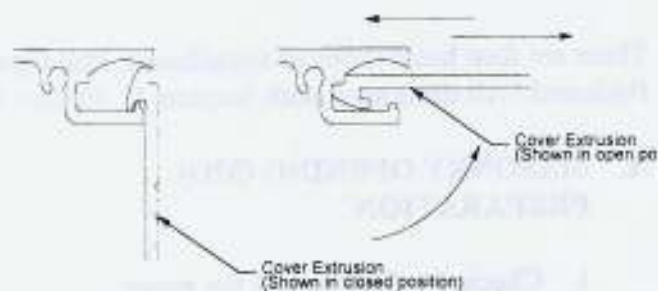

Figure 4
2. Remove the cover (See Figure 4) and parts box, and set them aside.